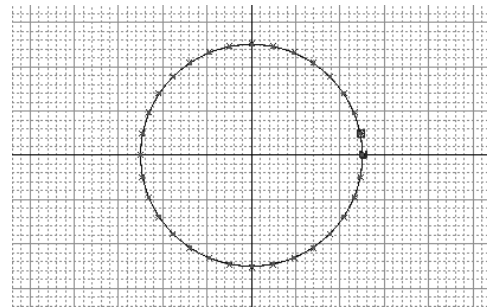

Figure 11-94 Grids displayed in the window
8. Enter **5** in the **Subdivisions** edit box and then choose the **Go** button; grids with the modified setting are displayed, as shown in Figure 11-94.